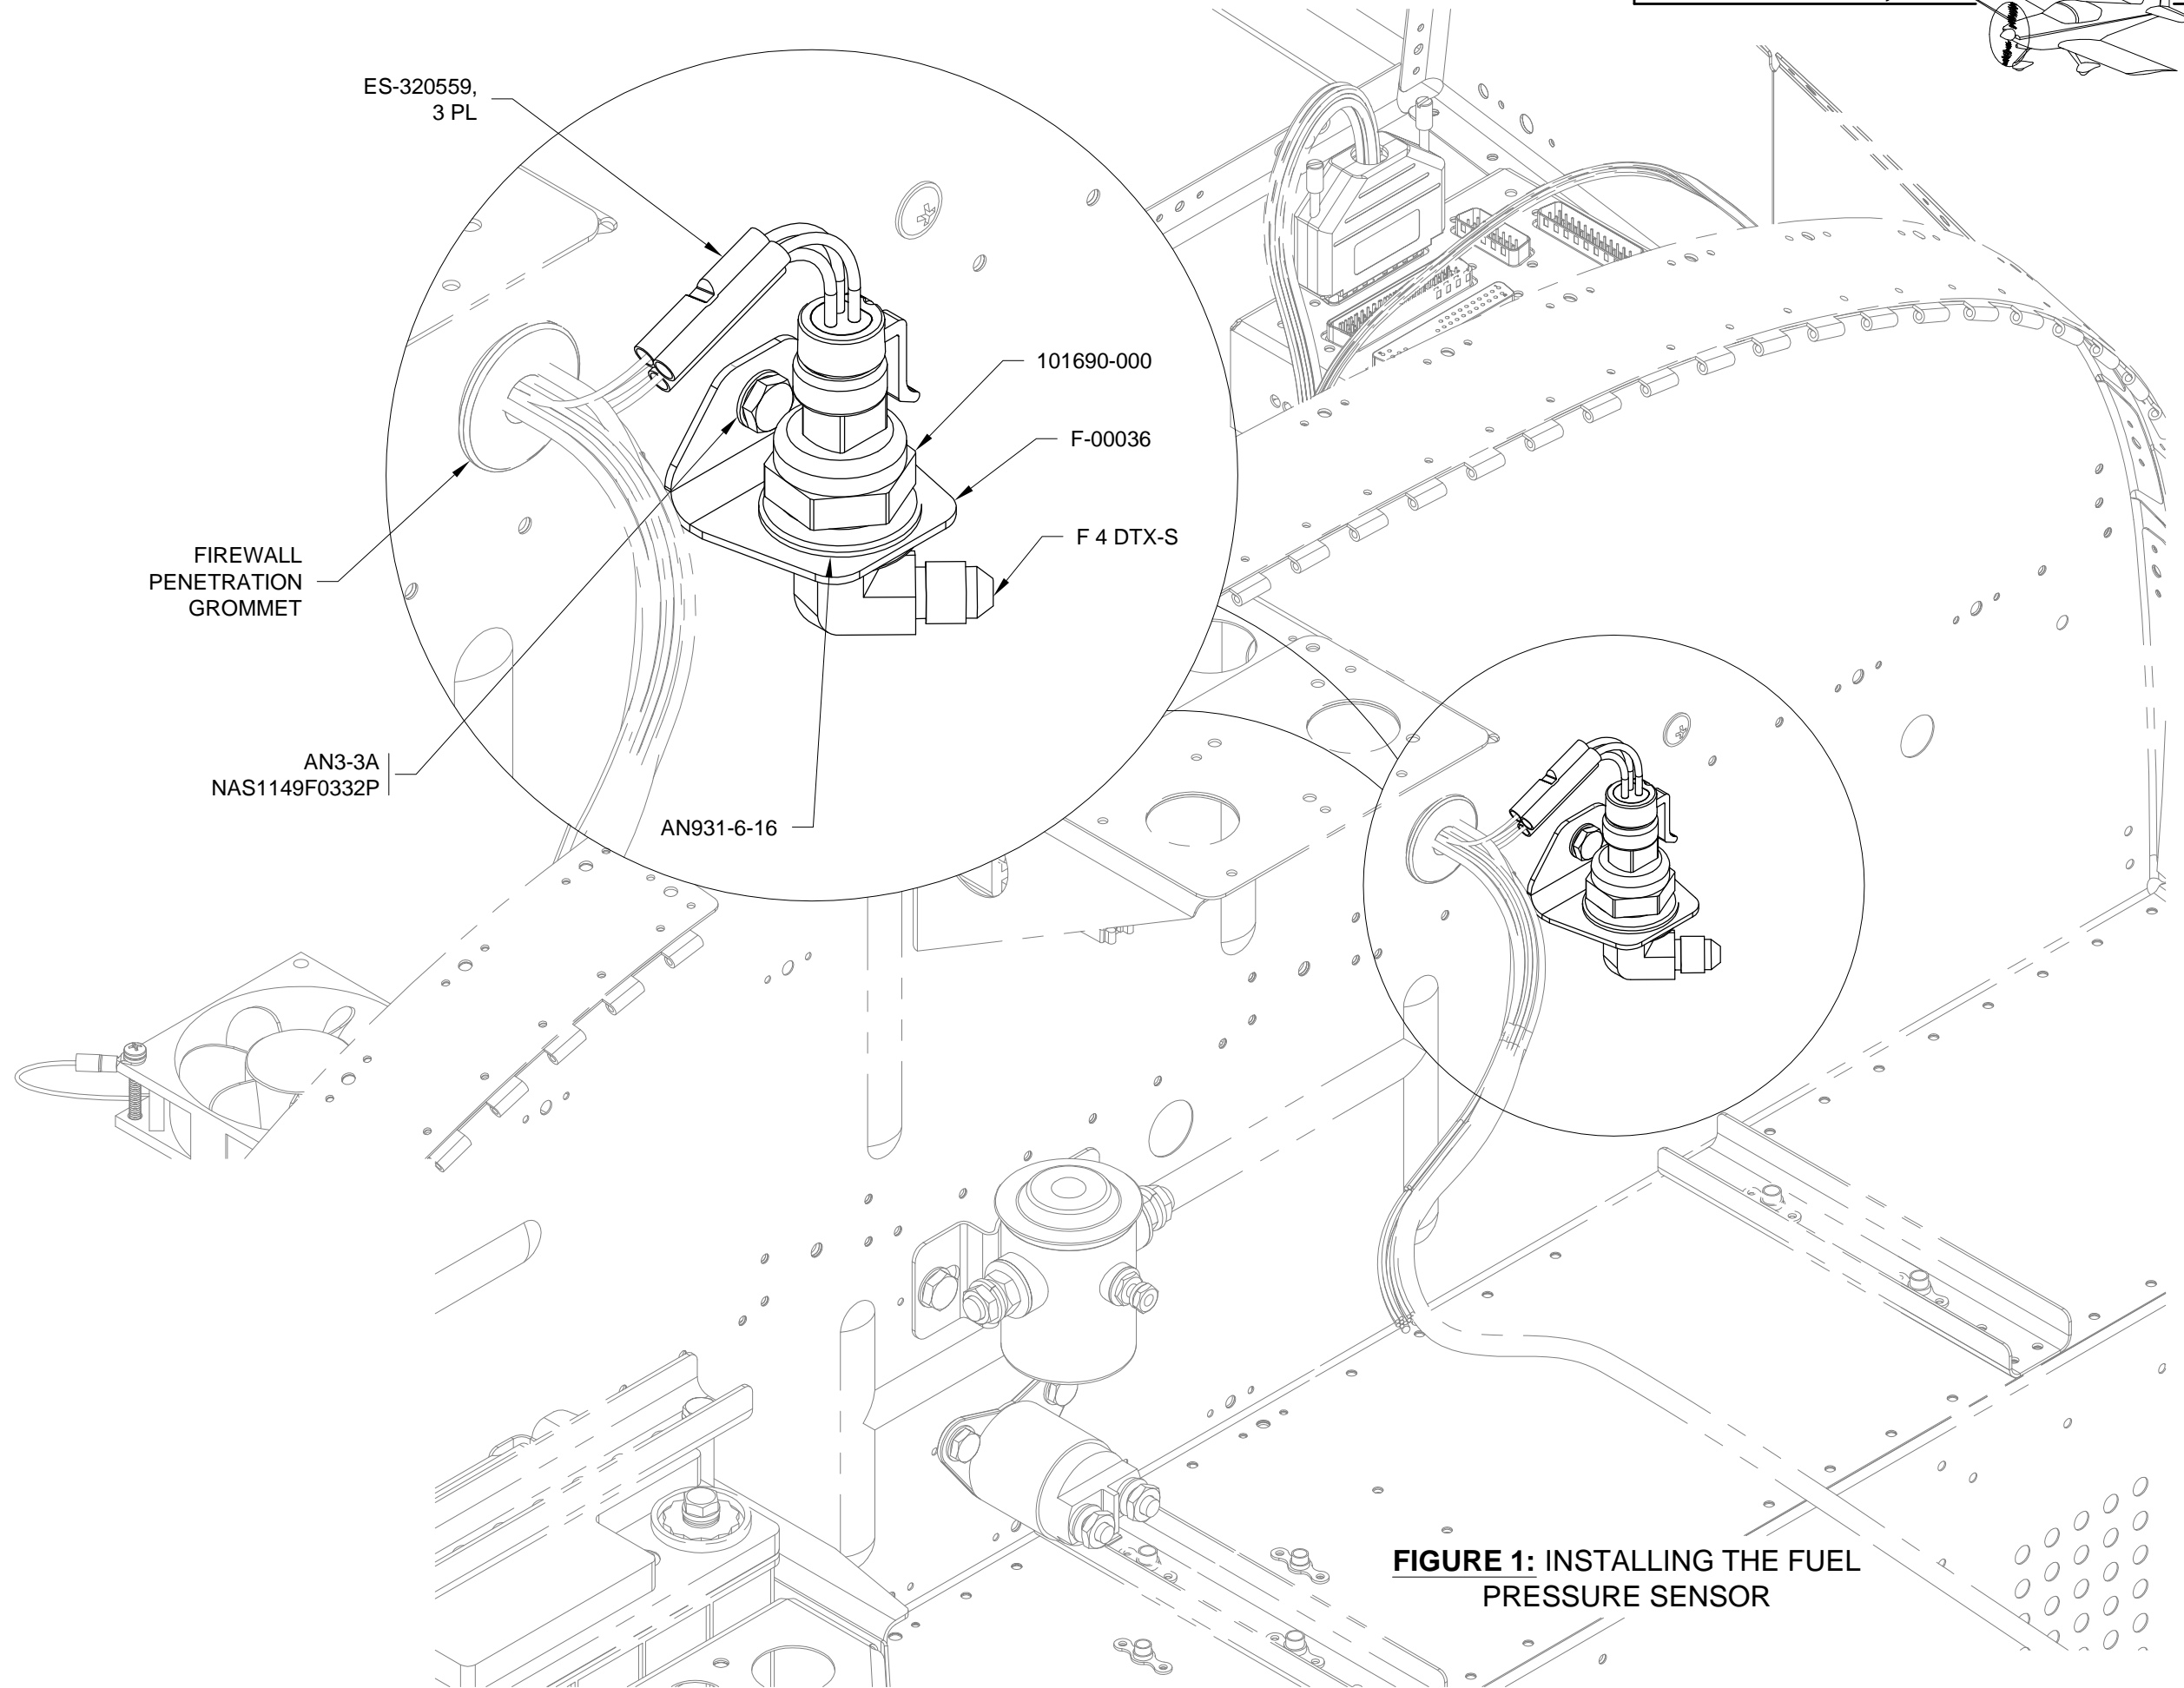

FIGURE 1: INSTALLING THE FUEL PRESSURE SENSOR
Step 1: Route the WH-RV12-EGT Exhaust Gas Temp Wiring Harness, the WH-00062 Power Wiring Harness and WH-00063-1 Rotax Fwall Fwd Wiring Harness through the cushioned clamp attached to the WD-1221 Engine Mount Standoff. See Figure 1.